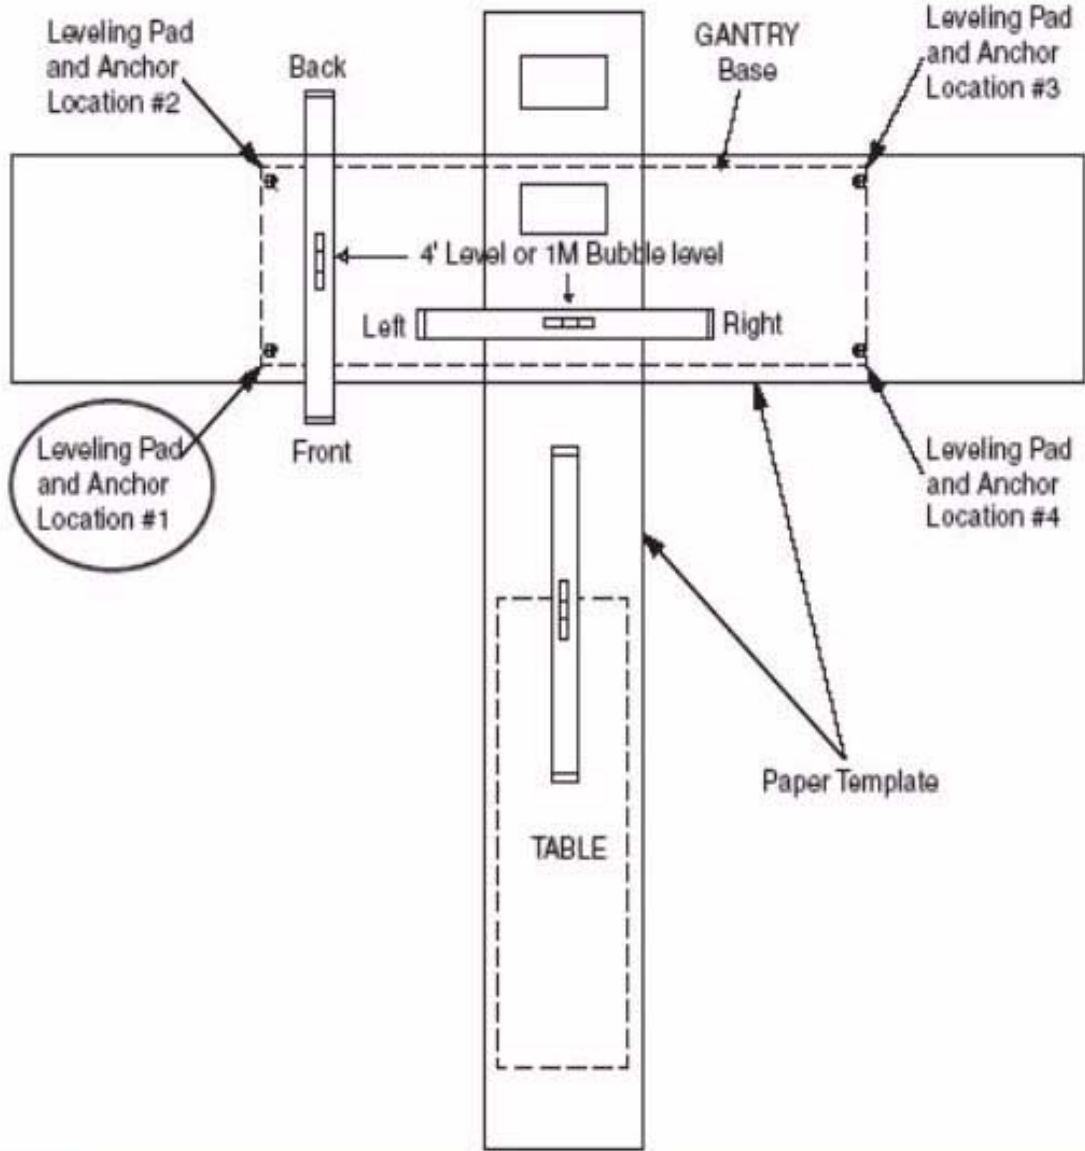

Figure 8-4 Determining Floor Levelness
- Refer to the steps listed in Section 3.1.3 and to Figure 8-4 to check whether the floor of the scan suite meets the floor levelness specifications for the system.
- 5.) Use a laser to check the levelness of the floor across the entire area covered by the template, as shown in Figure 8-4.